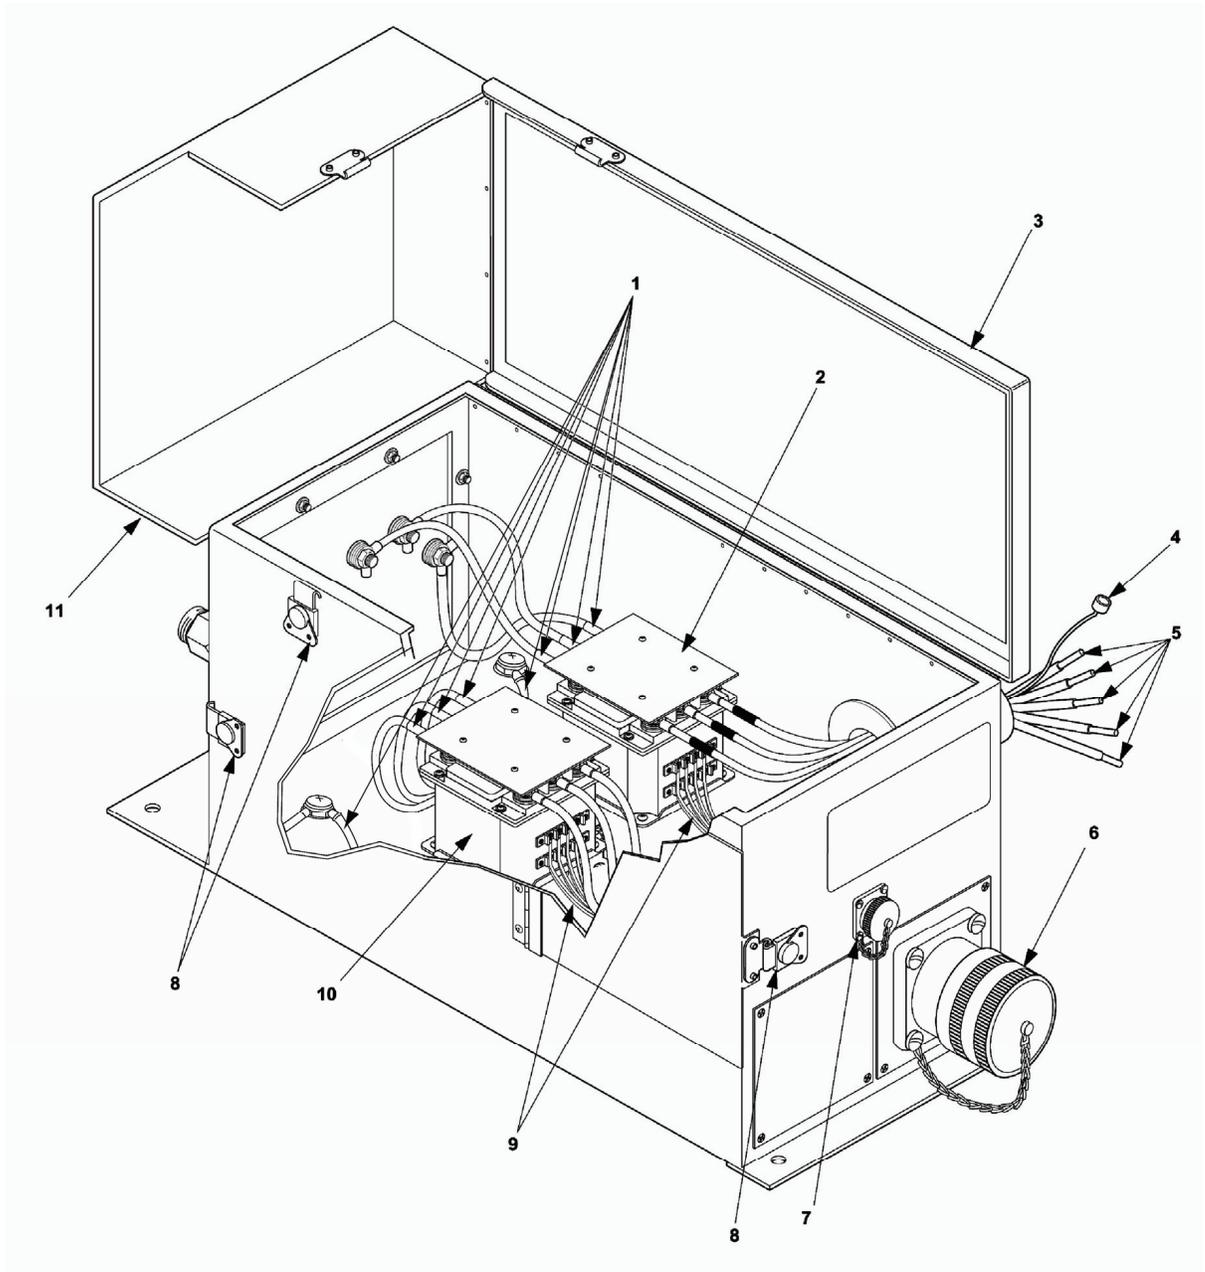

Figure 5-11.1. Switch Box Assembly Test (B&C Models).
1. Release clamping catches (8, figure 5-11.1), on switch box cover (3) and load terminal cover (11). Lift switch box cover (3).
- a. Refer to table 5-9. and check continuity of wiring harness W7 (9, figure 5-11.1).
- a. Using a multimeter, test contactor K1 (10, Figure 5-11.1) as follows:
(6) Measure resistance across terminals X and Y of contactor.
(7) Turn off power source and disconnect lines connected in step a(2).
b. Repeat steps a (1) through (7) for contactor K2 (2, figure 5-11.1).
b. Close the switch box cover (3, figure 5-11.1) and secure clamping catches (8).